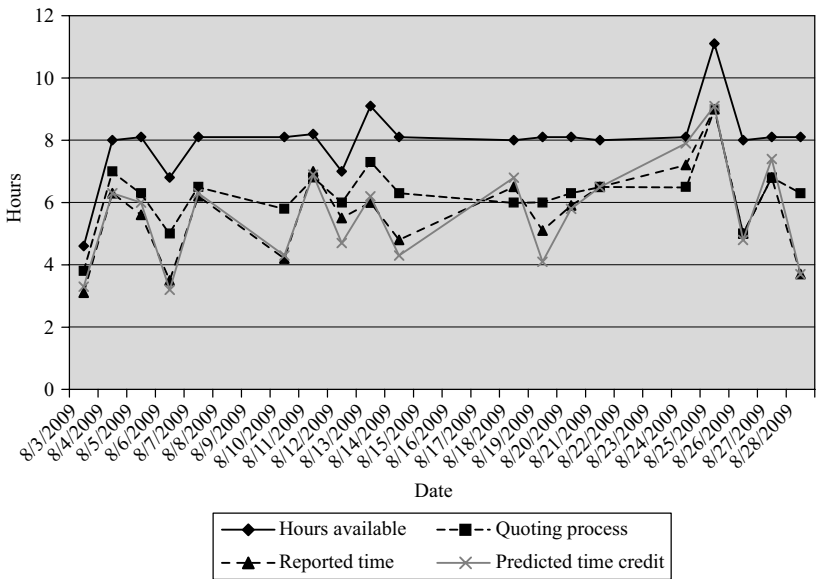

Figure A-6 Individual Productivity
compare a person’s actual work time with the standard. Figure A-6 shows a recent example of an individual’s monthly data.
Each person gets feedback on his or her predicted work completion credit compared with self-reported time. In Figure A-6, this SSS is right on her predicted time (the bottom two lines almost match). The Hours Available measure (top line) is the amount of time that the person was paid to be in the building, while the Quoting Process time (second from the top line) allows comparison of time credit with the amount of time that the person was assigned to be doing production work. All in all, these measures let people know exactly how they are doing, and the end-of-year performance evaluation is never a surprise.
- ◆ Explain the relationship between the “magic equation” in Step 1 and the method for calculating efficiency in Step 4. How does the gap between work done and time paid on the chart in Figure A-6 relate to the assumption of “five hours work in an eight-hour day”?